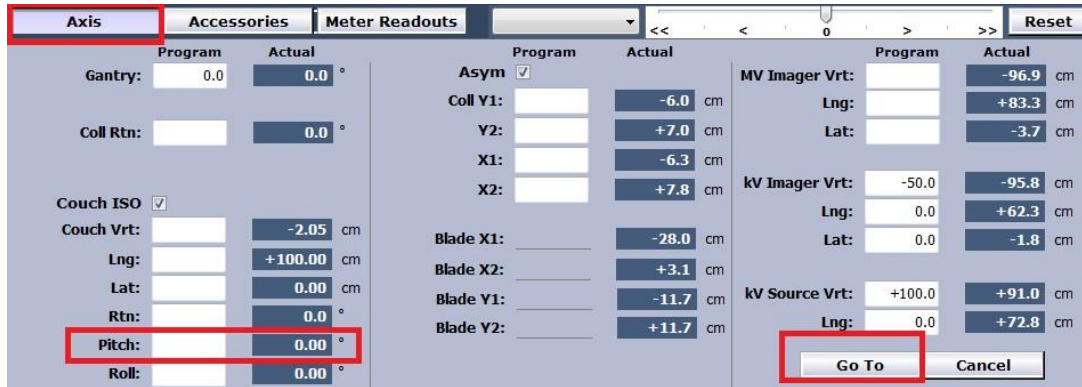

Figure 6: Entering Target Pitch Position in Service Mode
- Using the Axis positioning function in Service mode, enter Program value of 0.0° for Pitch and click Go To (see Figure 6). Execute the auto motion using hand pendant or side panel.